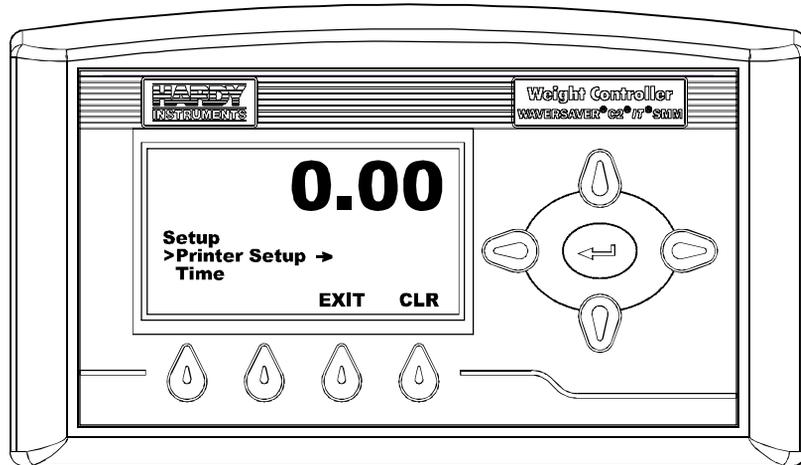

FIG. 90 SETUP MENU/SELECTING PRINTER SETUP
Step 1. Press the Down button until the cursor is in front of Printer Setup. (See Fig. 90)